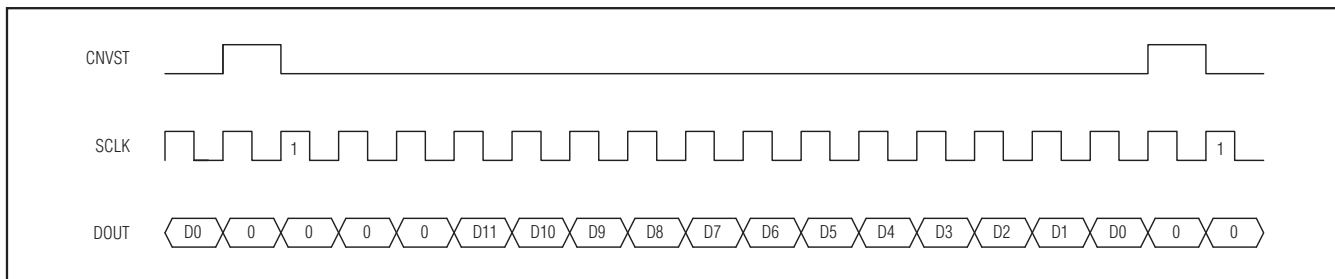

Figure 17. DSP Interface—Continuous Conversion
The MAX1277/MAX1279 can also be connected to the TMS320C54\_ by using the data transmit (DX) pin to drive CNVST and the CLKX generated internally to drive SCLK. A pullup resistor is required on the CNVST signal to keep it high when DX goes high impedance and 0001hex should be written to the DXR continuously for continuous conversions. The power-down modes may be entered by writing 00FFhex to the DXR (see Figures 17 and 18).
ters should be configured for late framing (LAFR = 1) and for an active-low frame (LTFS = 1, LRFS = 1) signal. This is also the best way to enter the power-down modes by setting the word length to 8 bits (SLEN = 1001). Connect the  $V_L$  pin to the ADSP21\_ \_ \_ supply voltage when the MAX1277/MAX1279 are operating with a supply voltage higher than the DSP supply voltage (see Figures 17 and 18).